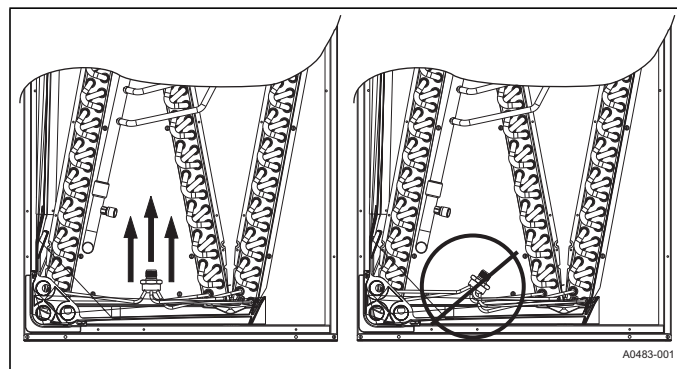

FIGURE 5: Recommended Distributor Adjustment
- Distributor position must be adjusted to allow the preformed liquid line assembly to properly line up with the hole in the tubing access panel. Raise the distributor body approximately 2" toward the top of the coil or what would be the top of the coil if coil was in the upflow position. See Figure 5. Adjust as necessary.